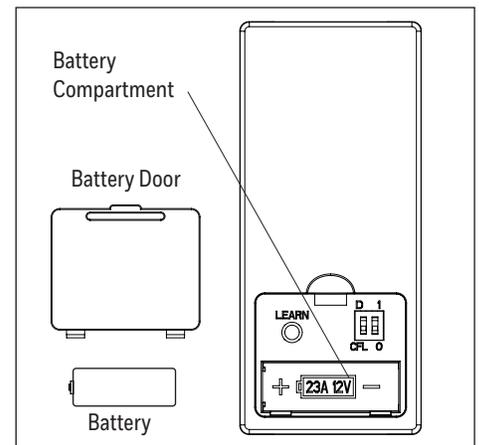

Figure 5.9
- Use a flat-head screwdriver, if necessary, to remove the battery cover from the back of the remote found in remote pack. Insert the battery into the remote; ensure polarity of battery matches the polarity indicated in the battery compartment -- positive (+) to positive (+) and negative (-) to negative (-). Replace the back cover and press the fan on/off button on the remote to ensure the LED indicator illuminates and the remote turns on the fan (Figure 5.9).